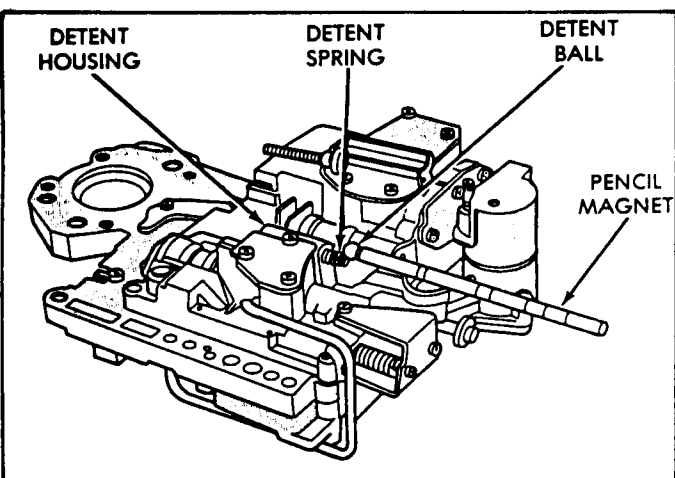

Figure 108
41. Install manual lever detent spring and ball in upper housing, (Figure 108).